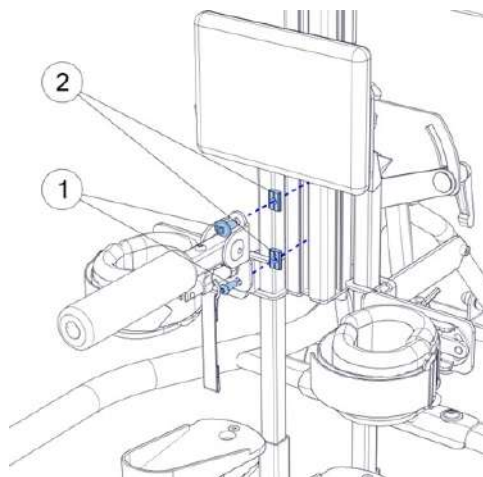

Fig. 34
Fig. 34 To fix the back support, start with placing the caps (2) in the hole of the stander column. After inserting the caps, fix the back support handle with screws (1). The handle should be placed at the right height, depending on the height of the patient, and then tighten the screws (1).